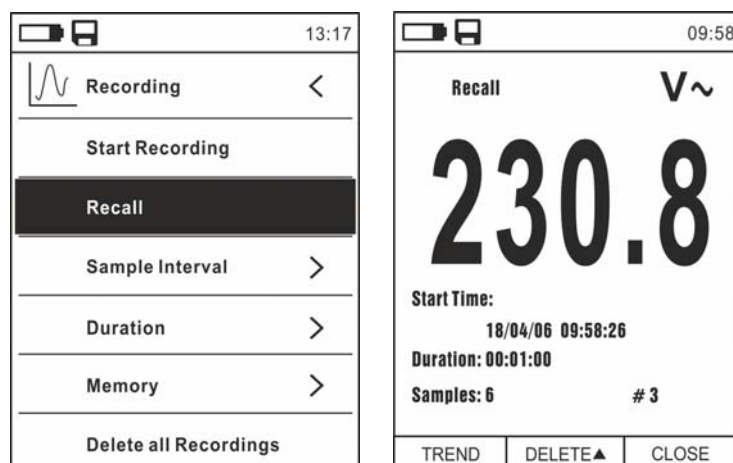

Fig. 34: Data logger function – Recalling recorded data to the display
16. Select item “Recall” (see Fig. 34 – left side) and press key . The screen in Fig. 34 – right side appears on the display.